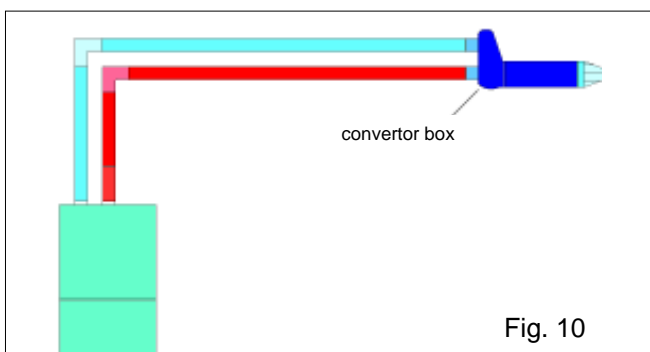

Fig. 10
4.5.3.2 HORIZONTAL TERMINATION (see fig. 10)